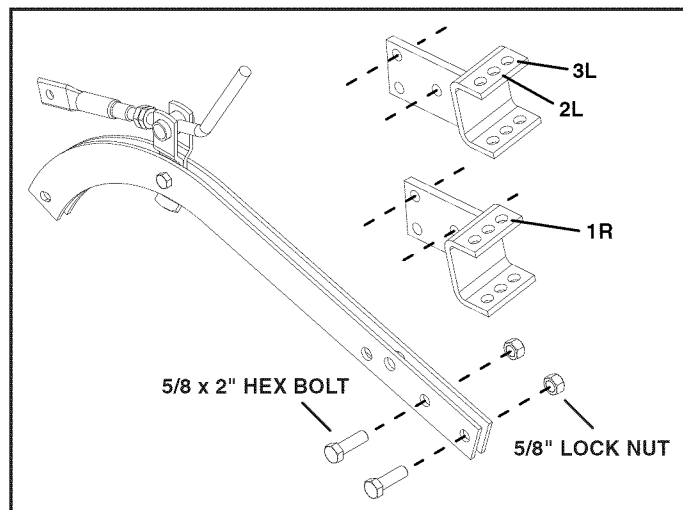

FIGURE 3
## STEP 3: (SEE FIGURE 3)
- Mount the plow to the sleeve hitch with the hitch pin furnished with the hitch. Refer to figure 3 and the accompanying table on page 6 to select the proper mounting hole.
- When plowing heavy clay soil or sod, it will help to reduce the width of the plow cut. This can be accomplished by hitching the plow one or two holes to the left of the recommended setting (see figure 3.)